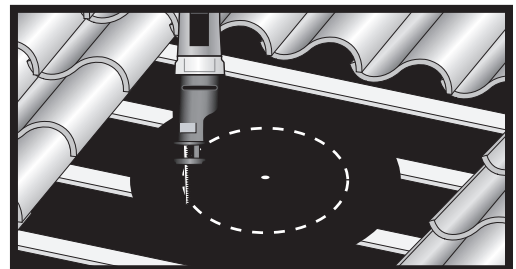

Figure 2
**2.** Outline the diameter of the hole that the pipe will pass through by turning the flashing upside down and marking the inside of the flashing unit. With a reciprocating saw, cut the diameter of the hole a **minimum of 1" larger than the area marked in previous step** (see Figure 2). **NOTE:** A larger hole can be cut to accommodate angled pipe installations.